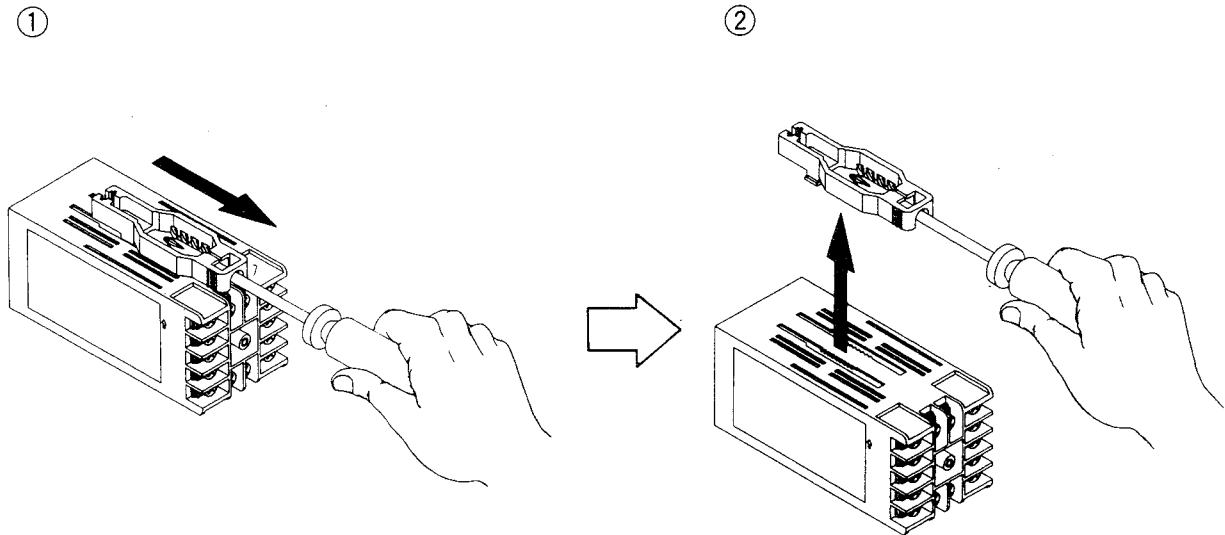

Fig. 2
(2) Pull the bracket toward you ( ① ), then pull it upward ( ② ) with the screwdriver inserted in the insertion hole. [Fig. 2]